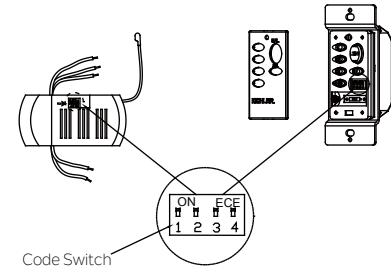

Fig. 29
Step 1. You can leave the frequency switches at the factory setting. Or you have to change the dip switch setting in the remote if you are using more than one fan in the same area and want to control them separately. Remove the battery and change the dip switch setting, assuring that they are different from the other fans. Reinstall the battery and switch plate on the control. (Fig. 29)